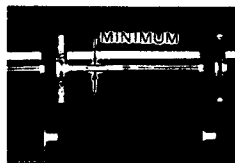

Fig. 3-1
- (1) Connect an oscilloscope to BB-2 of MAIN unit via a 75-ohm load resistor (75  $\Omega$  termination).
- (2) Then simultaneously adjust R20 and R85 to minimize the carrier leak of black level as shown in Fig. 3-1.